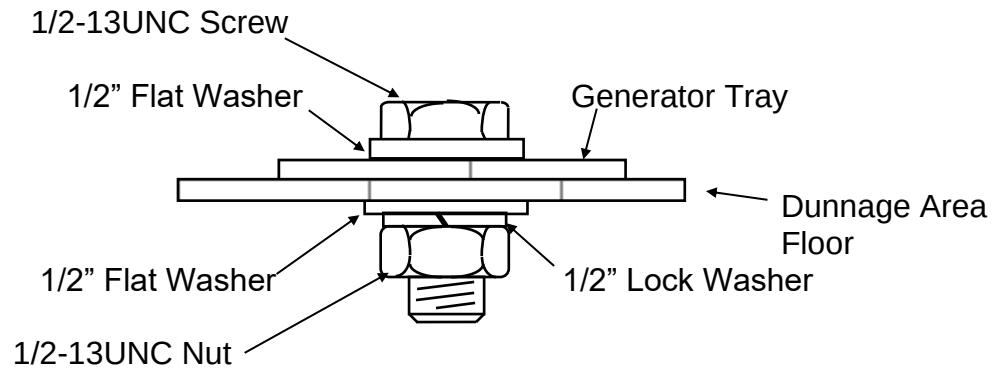

Figure 6
5. Mount the hydraulic generator tray securely to vehicle. Secure the generator to the floor of the enclosure using mounting hardware (not included), as shown in Figure 6.